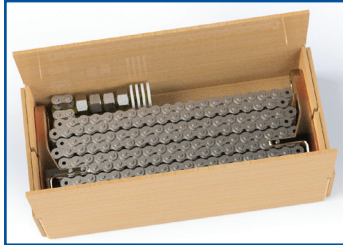
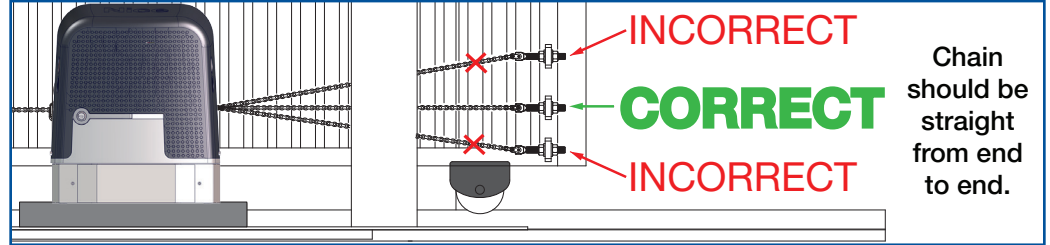

FIG. 4-1: Chain Kit
FIG. 4-2: Vertical Chain Alignment
2. Retrieve Chain Kit (P/N MX4560, FIG. 4-1). Measure for proper chain alignment **BEFORE** installing brackets to the gate. Make sure the chain will run horizontal to the ground and parallel with the gate (FIG. 4-2).